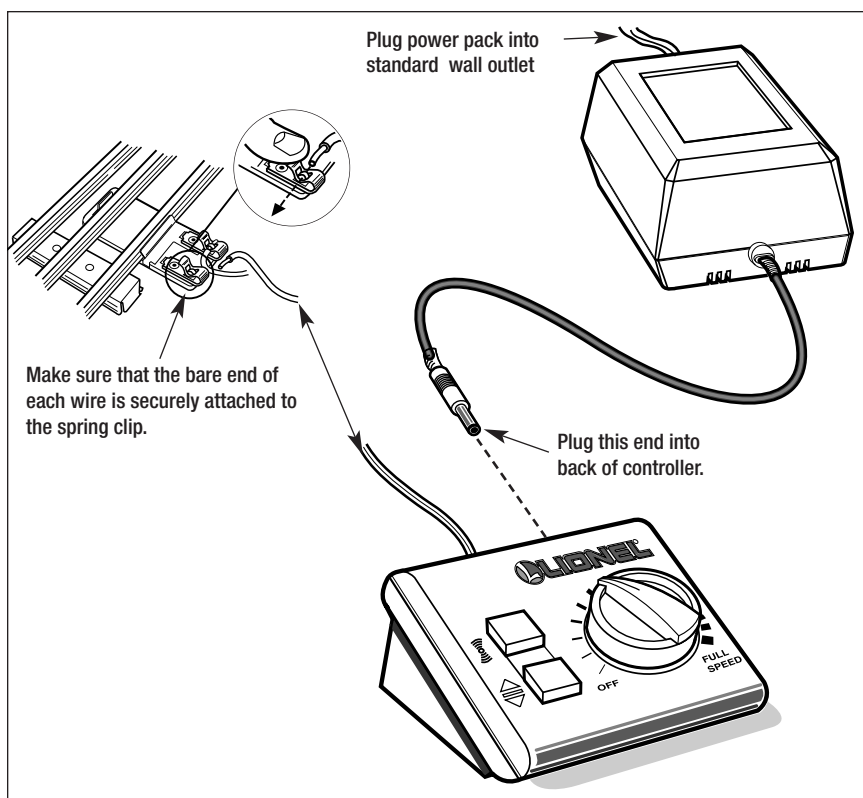

Figure 3. Controller connections
3. Connect the wire from the orange thumbscrew terminal to the #1 Lockon terminal. Refer to Figure 3.